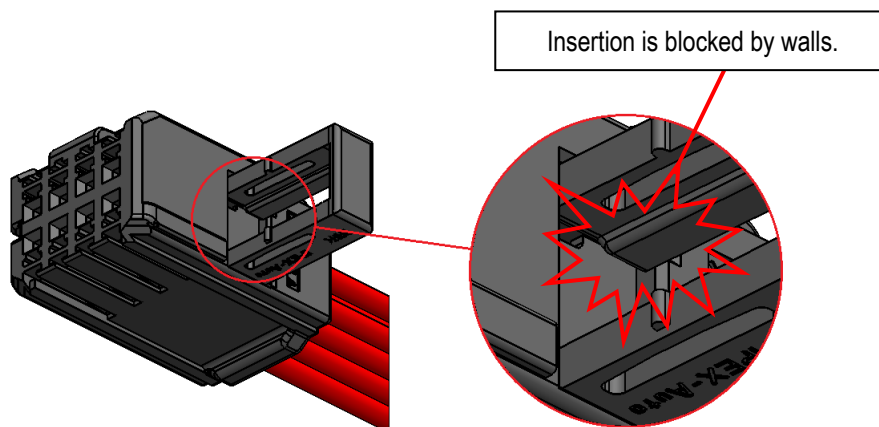

Fig.31 Incorrect retainer installation
- ⑤ The female retainer cannot be inserted, when it is inserted in incorrect orientation to the female housing, as shown in Fig.31.